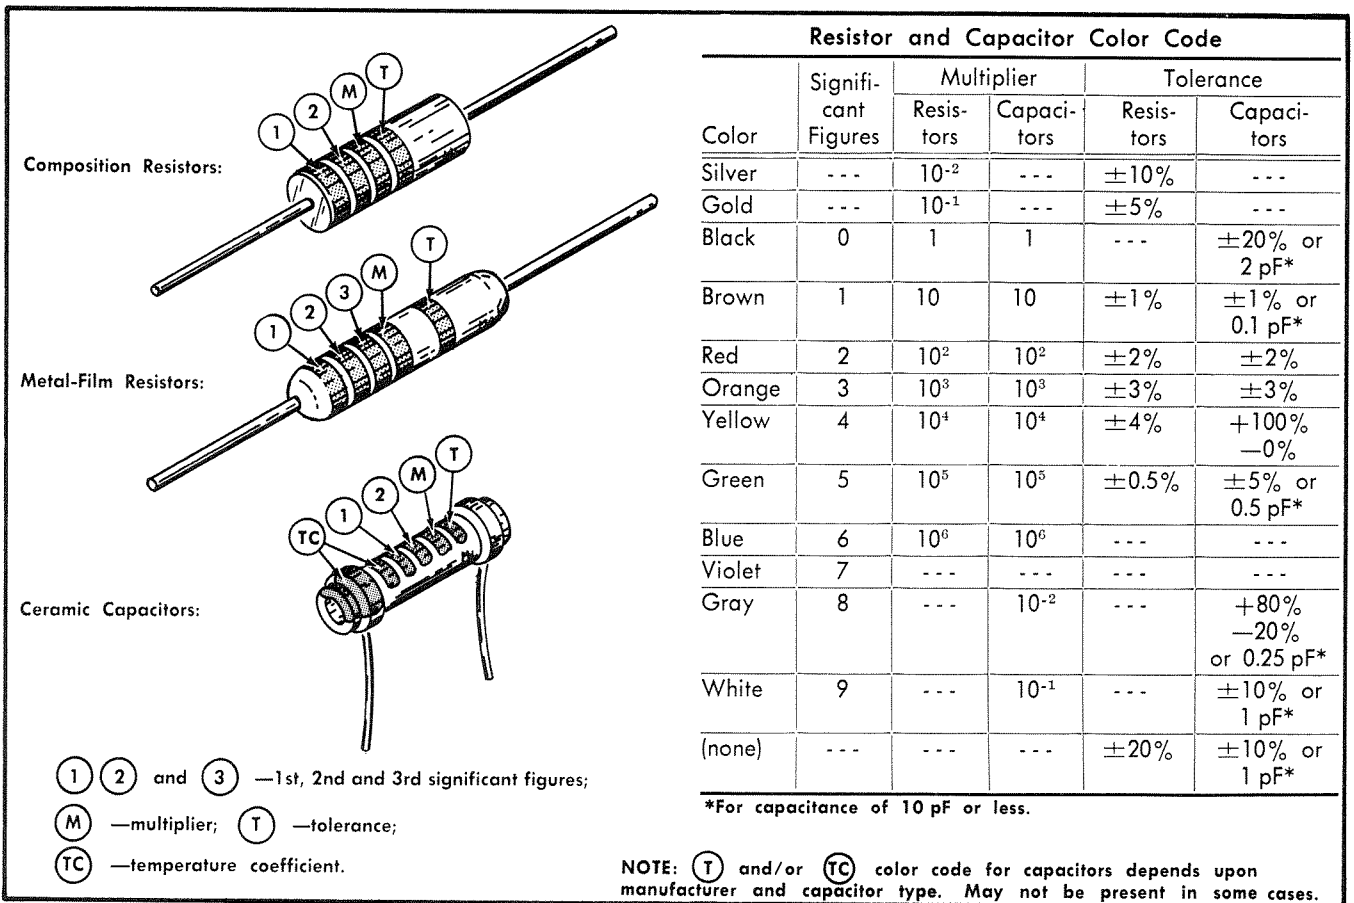

Fig. 5-1. Resistor and ceramic capacitor color-code.
The color-coding sequence is shown in Fig. 5-1.
**Capacitor Marking.** The capacitance values of common disc capacitors and small electrolytics are marked in microfarads on the side of the component body. The white ceramic capacitors used in the 7S11 are color coded in picofarads using a modified EIA code (Fig. 5-1).